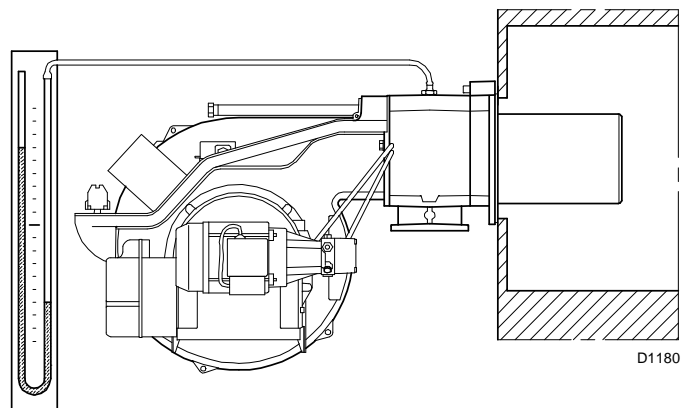

Fig. 35
- Fit a U-type manometer (Fig. 35) to the gas pressure test point on the sleeve.
The arrival of gas at the sleeve is indicated by the U-type manometer (Fig. 35).
A guideline indication can be calculated from the Tab. O at page 24, simply read off the gas pressure on the U-type manometer, see Fig. 35 at page 28, and follow the instructions on page 23.